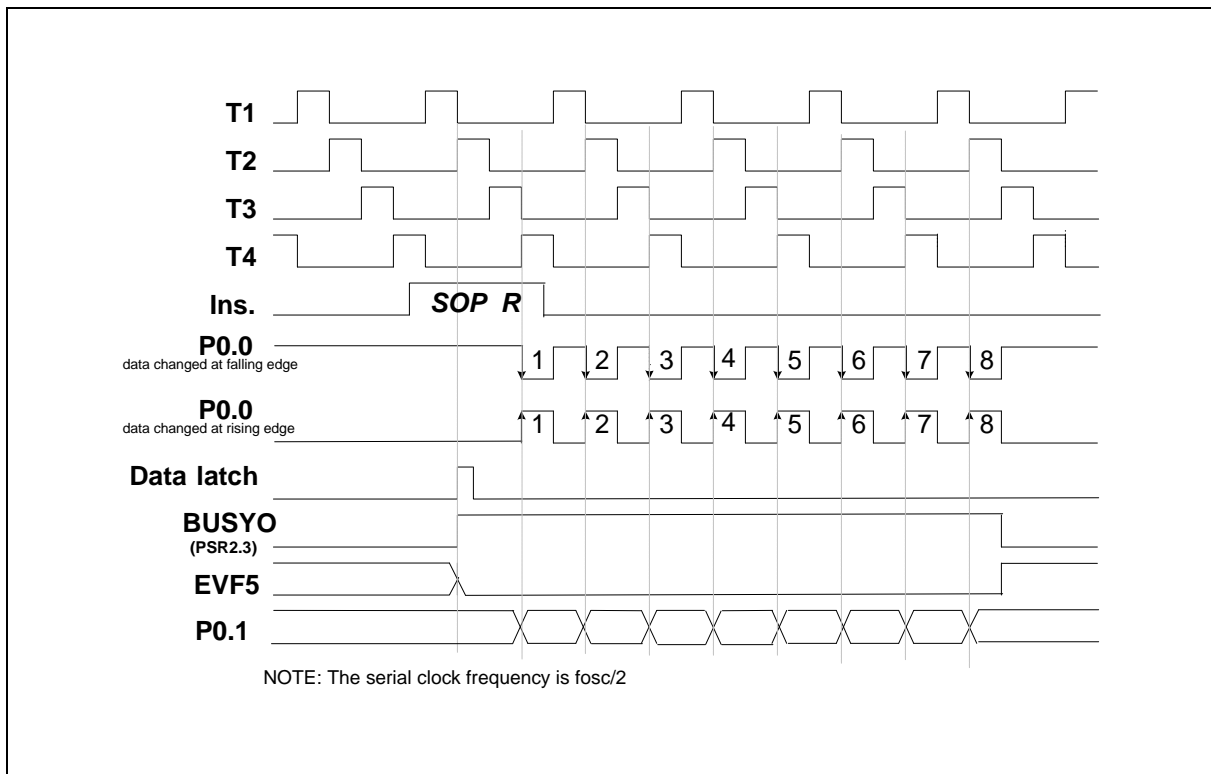

Figure 5-13 Timing of the Serial Output Function (SOP R)
- (2) When the **SOP R** instruction is executed, the data will be loaded to the serial output buffer (SOB) from ACC and the RAM, the low nibble data of SOB is from ACC register and the high nibble data is from RAM, and bit 3 of port status register 2(PSR2) will be set to "1" ($BUSY_O = 1$). Then the P0.0 pin will send out 8 clocks or accept 8 clocks from external device and the data in SOB will be sent out at the rising or falling edge of the P0.1 pin. After the 8 clocks have been sent, $BUSY_O$ will be reset to "0" and $EVF.5$ will be set to "1." At this time, if $IEF.5$ has been set ($IEF.5 = 1$), an interrupt is executed; if $HEF.5$ has been set ($HEF.5 = 1$), the hold state is terminated. Users can check the status of PSR2.3 ($BUSY_O$) to know whether the serial output process is completed or not. If a serial output process is not completed, but the SOP R instruction is executed again, the data will be lost. The timing is shown in Figure 5-13.